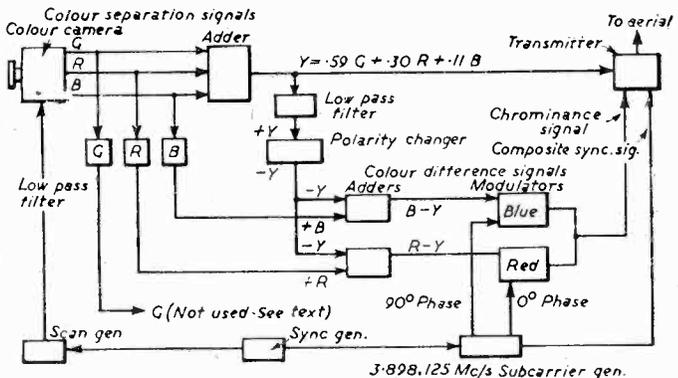

Fig. 2.—Block diagram of the NTSC non-sequential colour-TV transmitter.
There is nothing quite as good as a block diagram for examining a complicated system. Fig. 2 is a simplified outline of the transmitter half of the system.
In Fig. 2, the camera supplies electrical signals G, R and B, which correspond to the green, red and blue components of the light in the televised scene. These separate colour-signal voltages are combined in the proportions shown, to make up the luminance signal Y. The proportions of G, R and B are based on the relative sensitivity of the human eye to those colours.
(3) Continuing with Fig. 2, R—Y and B—Y modulate two sine-wave voltages which have exactly the same frequency but are 90 deg. out of phase. The combined result, the *chrominance* signal, becomes a two-phase sub-carrier, with each phase amplitude-modulated by picture-colouring information.